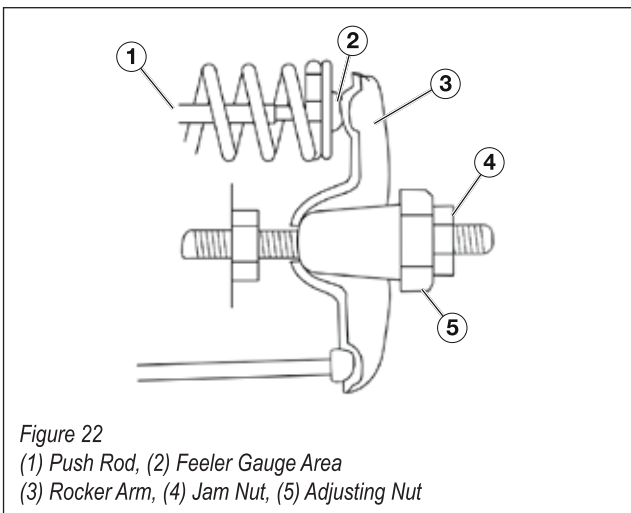

Figure 22
5. Insert a feeler gauge between the rocker arm and the push rod and check for clearance (see Figure 22). See table below for valve lash specifications